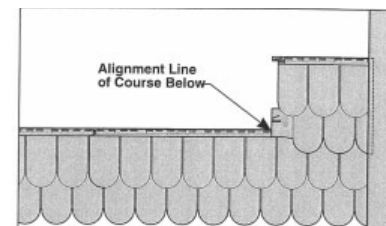

Fig.14
- b. Half Rounds –Align Left Side Flange with nearest Alignment Line of course below that allows for proper fit into corner post or J-channel (see Figure 14).
- a. Measure the distance from the first RIGHT Alignment Line “0” of the course below to the edge of the corner post or J channel plus 1/4” (see “A” on Figure 14).